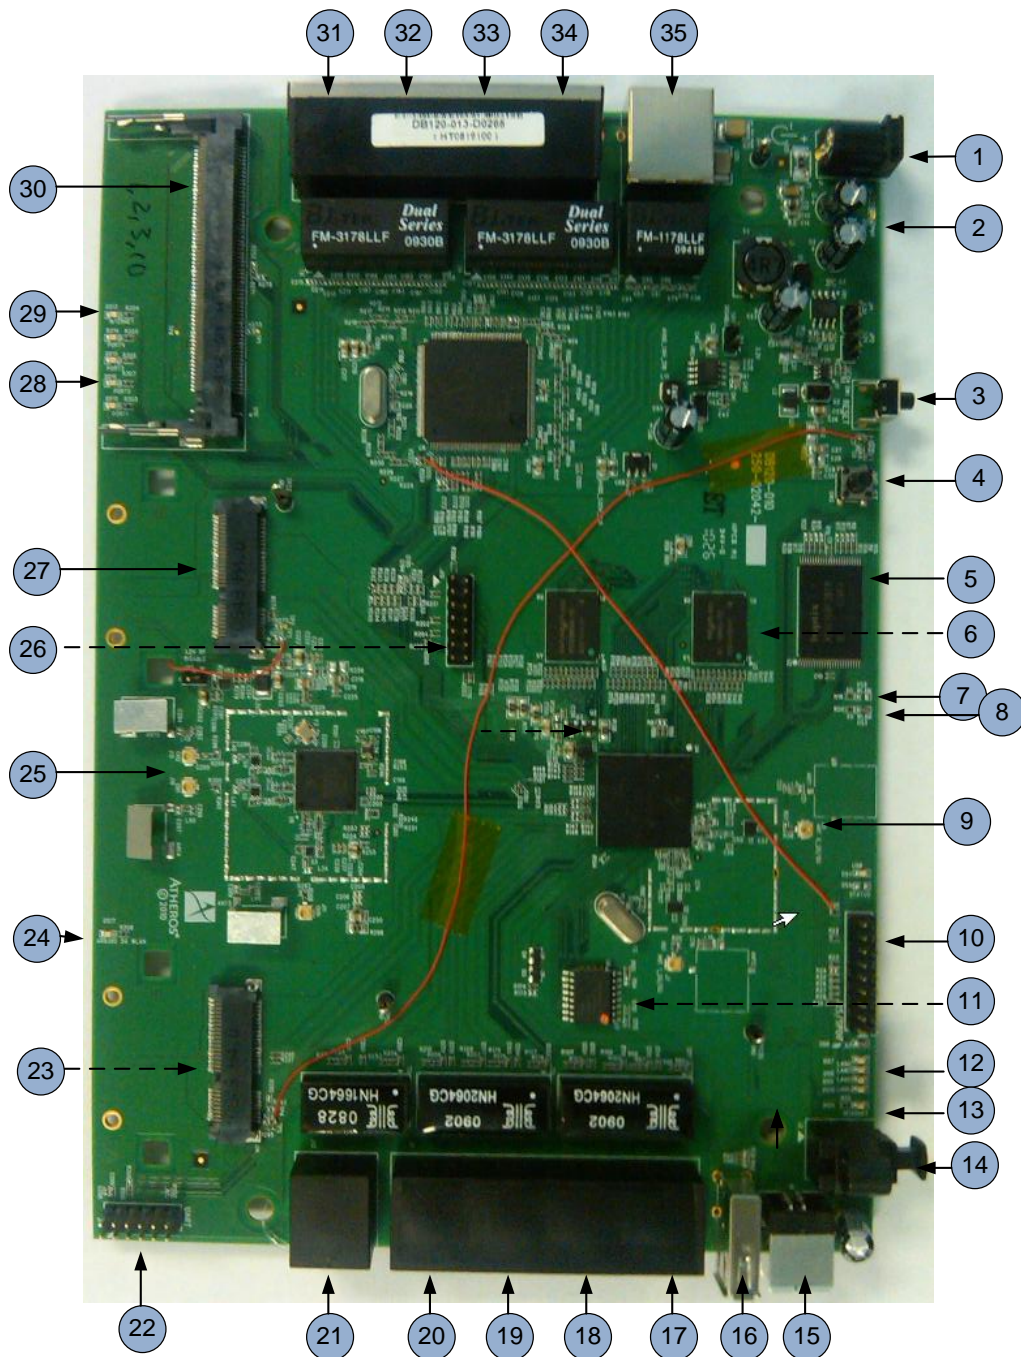

Figure 1 DB120 Reference Design Board
Figure 1 depicts the DB120 Reference Design board. See Table 1 to identify the buttons and external interfaces on the board.
4. Use a RS232 cable to connect the DB120 to an available COM port on the PC. Connect the other end of the RS232 cable to the RS232 adapter (see Figure 1).